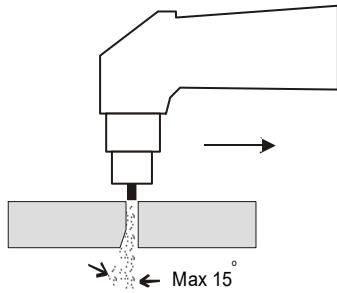

Fig. 6
1. The cutting speed is too high. Make sure the slope of the cutting arc does not exceed about 15° (see Figure 6).